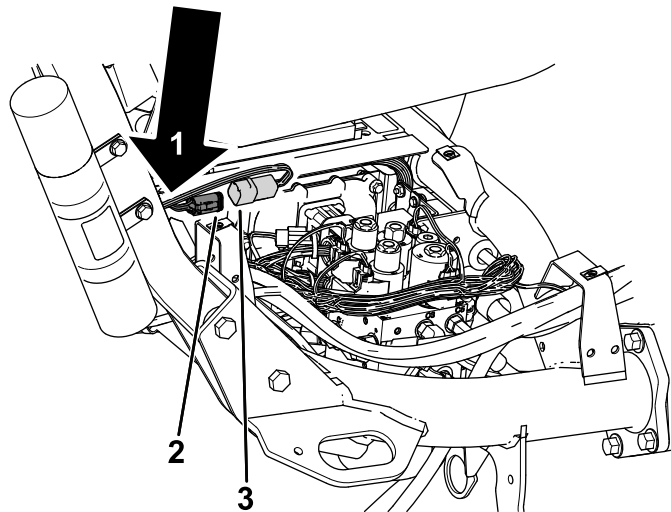

Figure 10
5. Route the wire harness down the roll bar and connect the wire-harness connector labeled P01 to the connector on the machine wire harness labeled P49 (Figure 10).
6. Secure the telematics harness to the main harness with a cable tie (Figure 10).